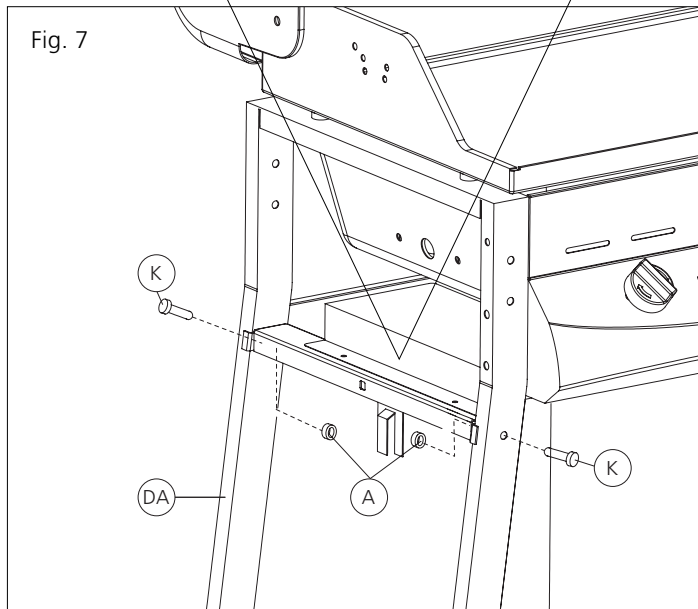

Fig. 7
Secure the heat shield assembly to the left leg (DA) with A & K (Fig. 7).